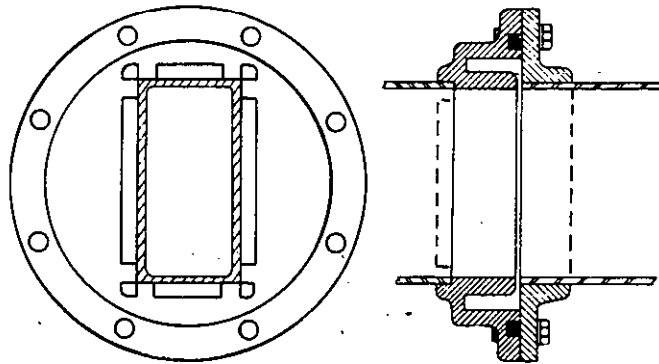

FIGURE 7.3. Typical choke coupling.
**7.1.1.2 Choke flanges.** Choke flanges are designed to be mated with cover flanges. Choke flanges use a quarter-wave deep groove around the waveguide opening plus a quarter-wave long noncontacting distance on the waveguide face to produce a half-wave transmission line at the midband of the flange operating frequency range. This transmission line presents a zero impedance to the waveguide at the flange face without physical contact. Choke flanges are used over the range of roughly 4 to 26 GHz. Above this range the performance of the choke as a zero impedance device falls off due to the wide band widths and very close tolerances required at these frequencies. Below this range the power levels used in current systems cause arcing and overheating of choke junctions if the choke couplings are used at band edges, or if sharp corners or foreign materials are present in the choke groove. Very high power systems usually use contact flanges with gaskets to provide very low resistance connections. Choke flanges include an O-ring installed in the flange face to provide a pressure tight system. The O-ring is installed near the junction between the two quarter-wave lines because it is then at a low current location where contact is noncritical. Choke flanges are mounted to waveguides by a raised or recessed socket. The socket may be formed by cross slotting the raised back of the flange or by milling a recessed area into the back of the flange. The waveguide is then soldered or brazed into the mounting. A typical choke coupling is shown in figure 7.3.